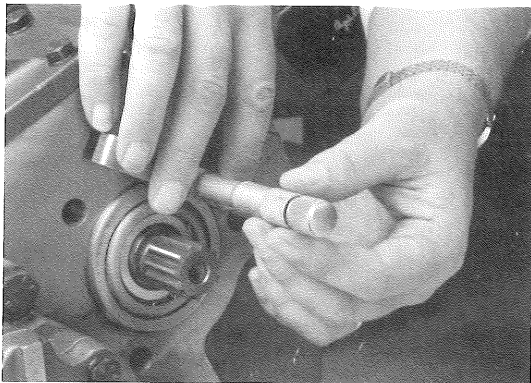

Fig. 13
1. Press the bearing outer cup firmly into position and measure between the face of the gearcase and the top of the bearing outer as shown in Fig. 13.